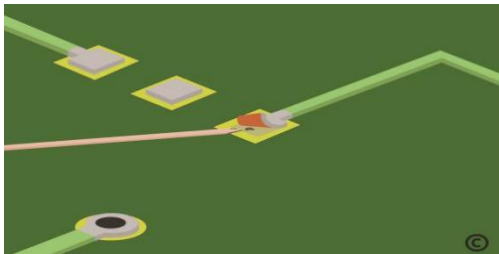

Fig. 8.3
2. This epoxy (Fig. 8.3), is designed to withstand the chemicals, heat and can adhere to materials common in PCB assembly. It has been used since 1998 and can be used in a variety of applications including but not limited to pad and trace repair, solder mask repair, baseboard material repair as well as numerous others. The mix ratio is already taken care of for you in the pre-mixed bags and therefore is easy to remember and easy to mix. It is a 3:1
4. Carefully apply a small amount of epoxy (Fig 8.3) under the entire length of the lifted circuit. The tip of an orange wood stick may be used to apply the epoxy.